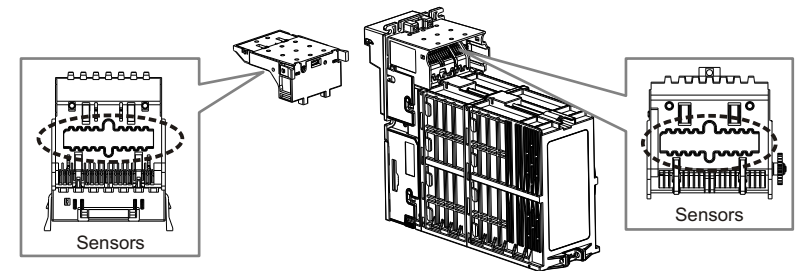

Figure 18
2. Use a soft, dry cloth or towel to clean the bill path and sensors (as figure 18).